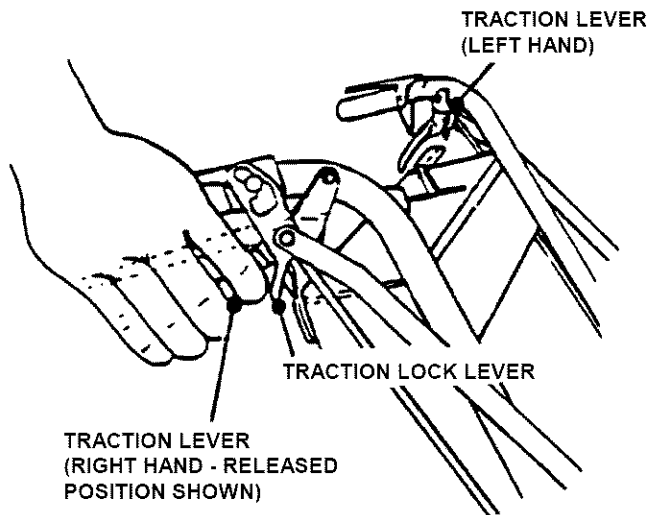

FIGURE 3.10
3. To **release** Traction Lock, squeeze both Traction Levers firmly against the handle. Simultaneously release both Traction Levers slowly, allowing machine to start forward movement. See Figure 3.10.